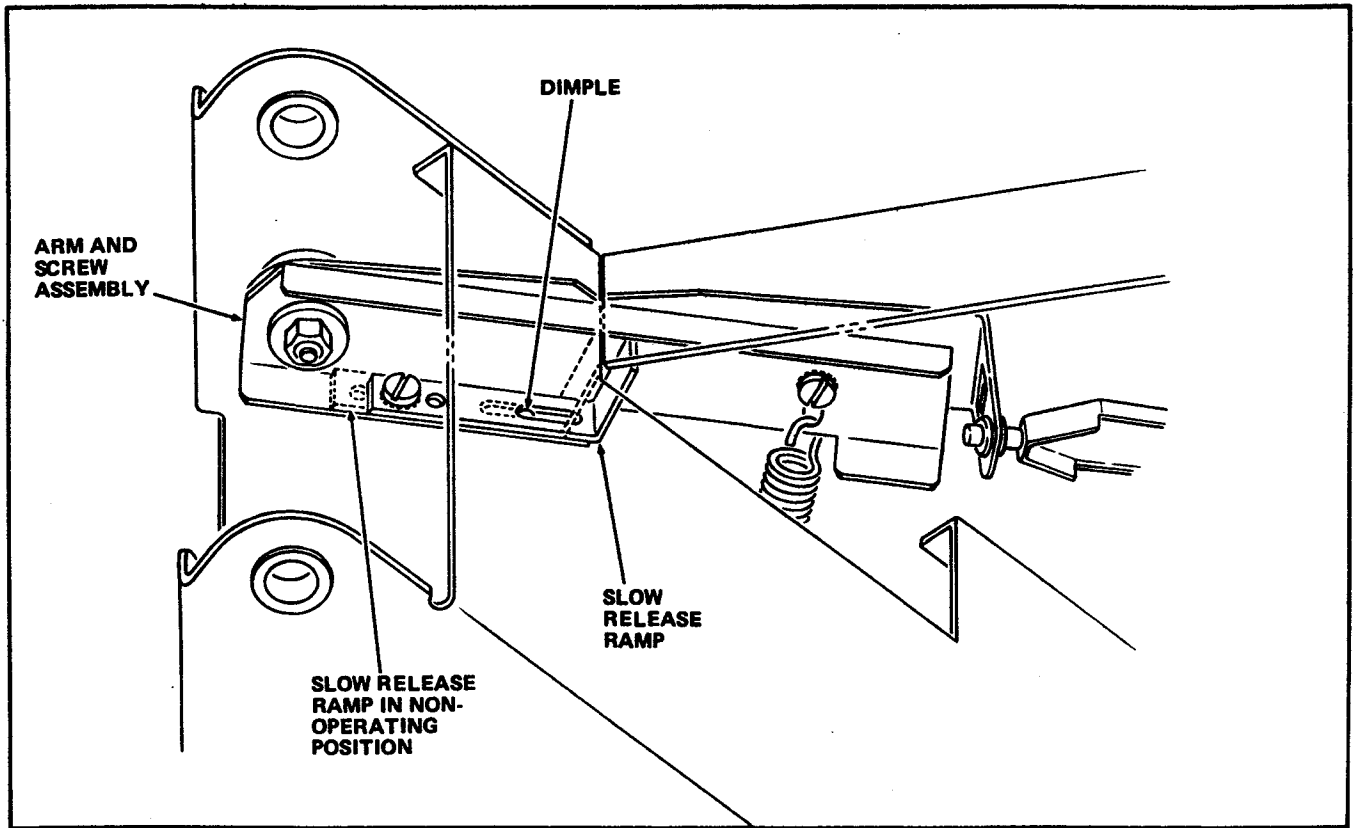

Figure 3-9. Slow Release Ramp Adjustment
1. Holding the Slow Release Ramp in place, remove the screw attaching the Slow Release Ramp to the Arm and Screw Assembly. See Figure 3-9.
2. Slide the Slow Release Ramp to the left (non-operating position) to align the inside hold on the Slow Release Ramp with the hole in the Arm and Screw Assembly and attach using the Screw removed in Step 3. Make sure the dimple on the Arm and Screw Assembly is in the slot of the Slow Release Ramp. See Figure 3-9.